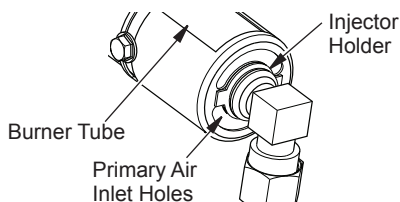

Figure 54 - Injector Holder On Outlet Burner Tube
2. Inspect burner, pilot and primary air inlet holes on injector holder for dust and dirt (see Figure 54, page 30).